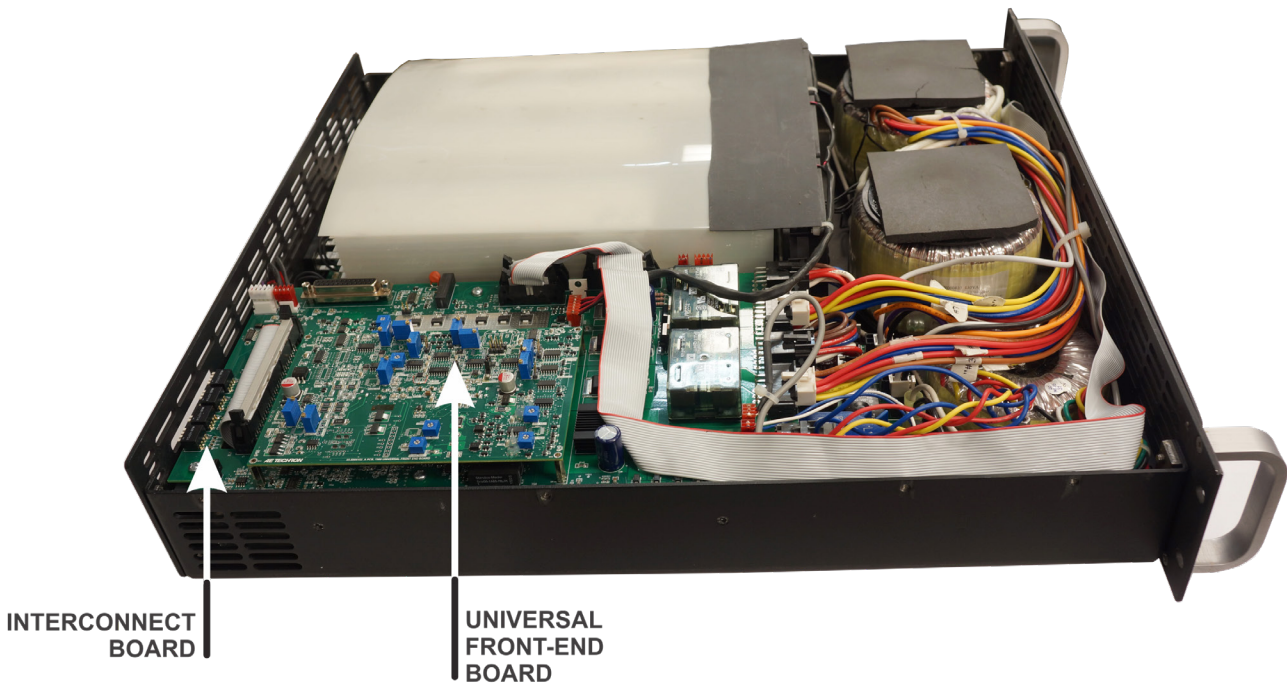

Figure 5.4 – UFEB and Interconnect Board Locations
Refer to **Figure 5.4** for UFEB and Interconnect board locations.
2. Locate the Interconnect Board (see **Figure 5.4**).